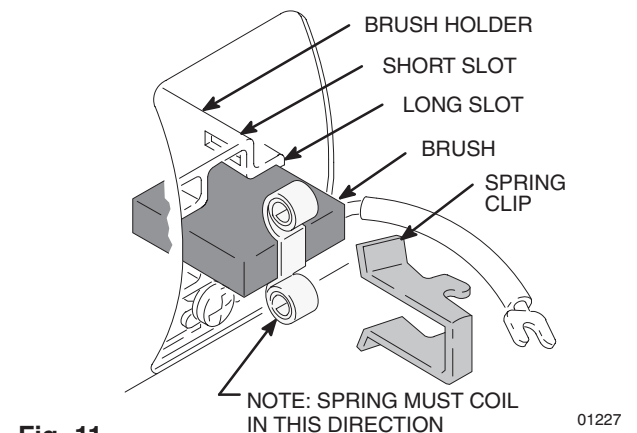

Fig. 11
6. Install new brush so lead is in long slot of holder. See Fig. 11.
8. Place spring on brush as shown in Fig. 11.
9. Install spring clip and push it down to hook short slots in housing. See Fig. 11.